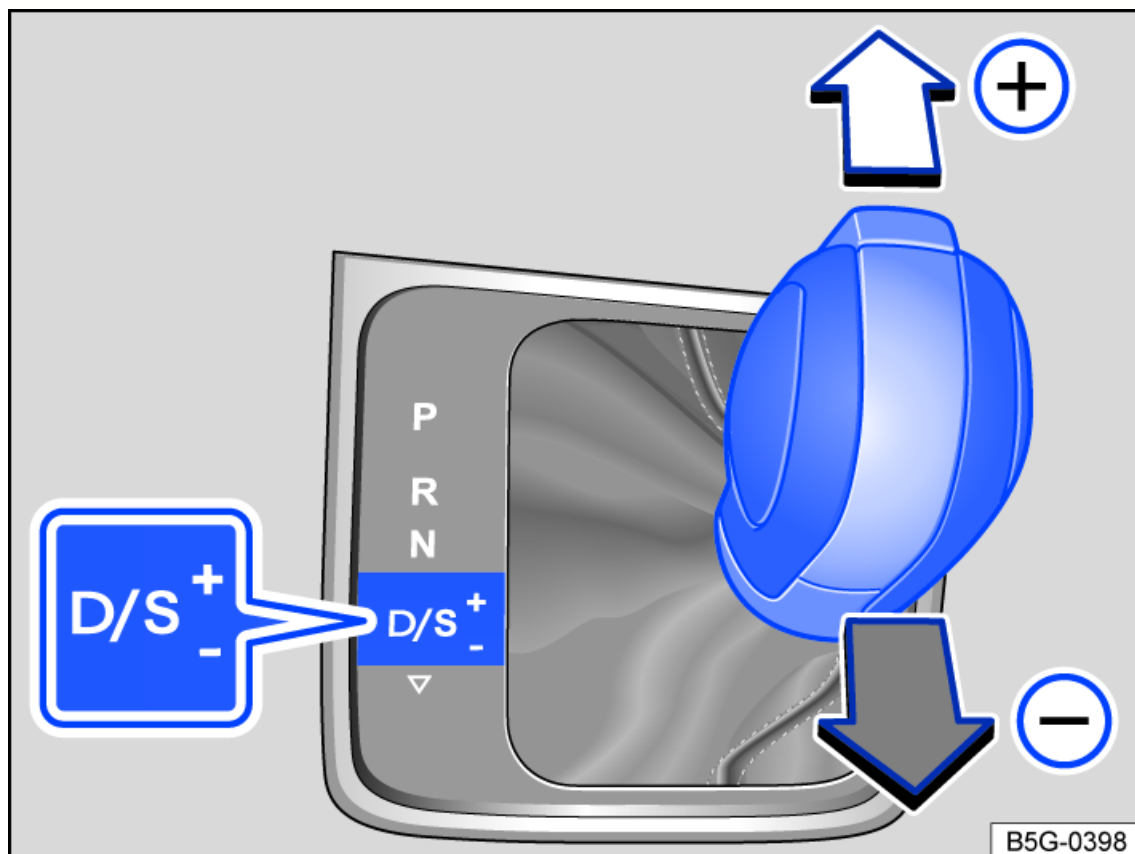

Fig. 100 In the center console: selector lever in the tiptronic position.
2. Tap the selector lever forward  or to the rear  to upshift or downshift *fig. 100*.